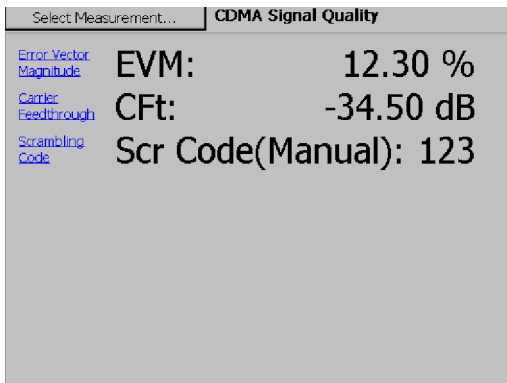

Figure 3-45: A Signal Quality display
3. Tap **Signal Quality**. See Figure 3-45.